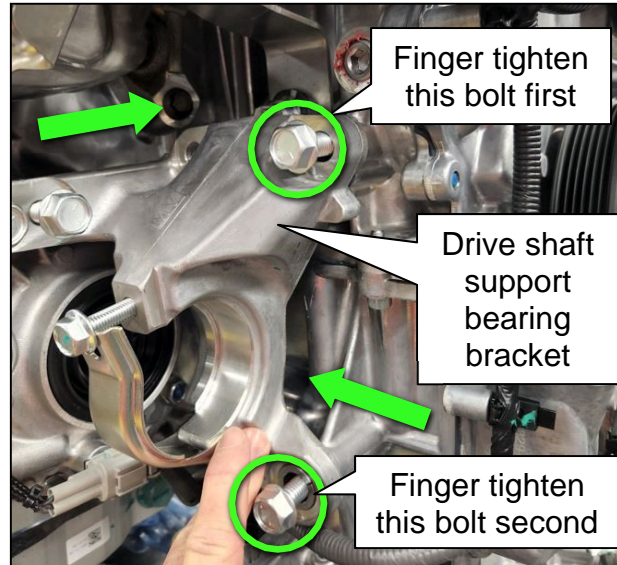

Figure 10
1. Place and hold the drive shaft support bearing bracket into position, ensuring it is flat against the engine block and transfer assembly, and loosely install the bolts (Figure 10).